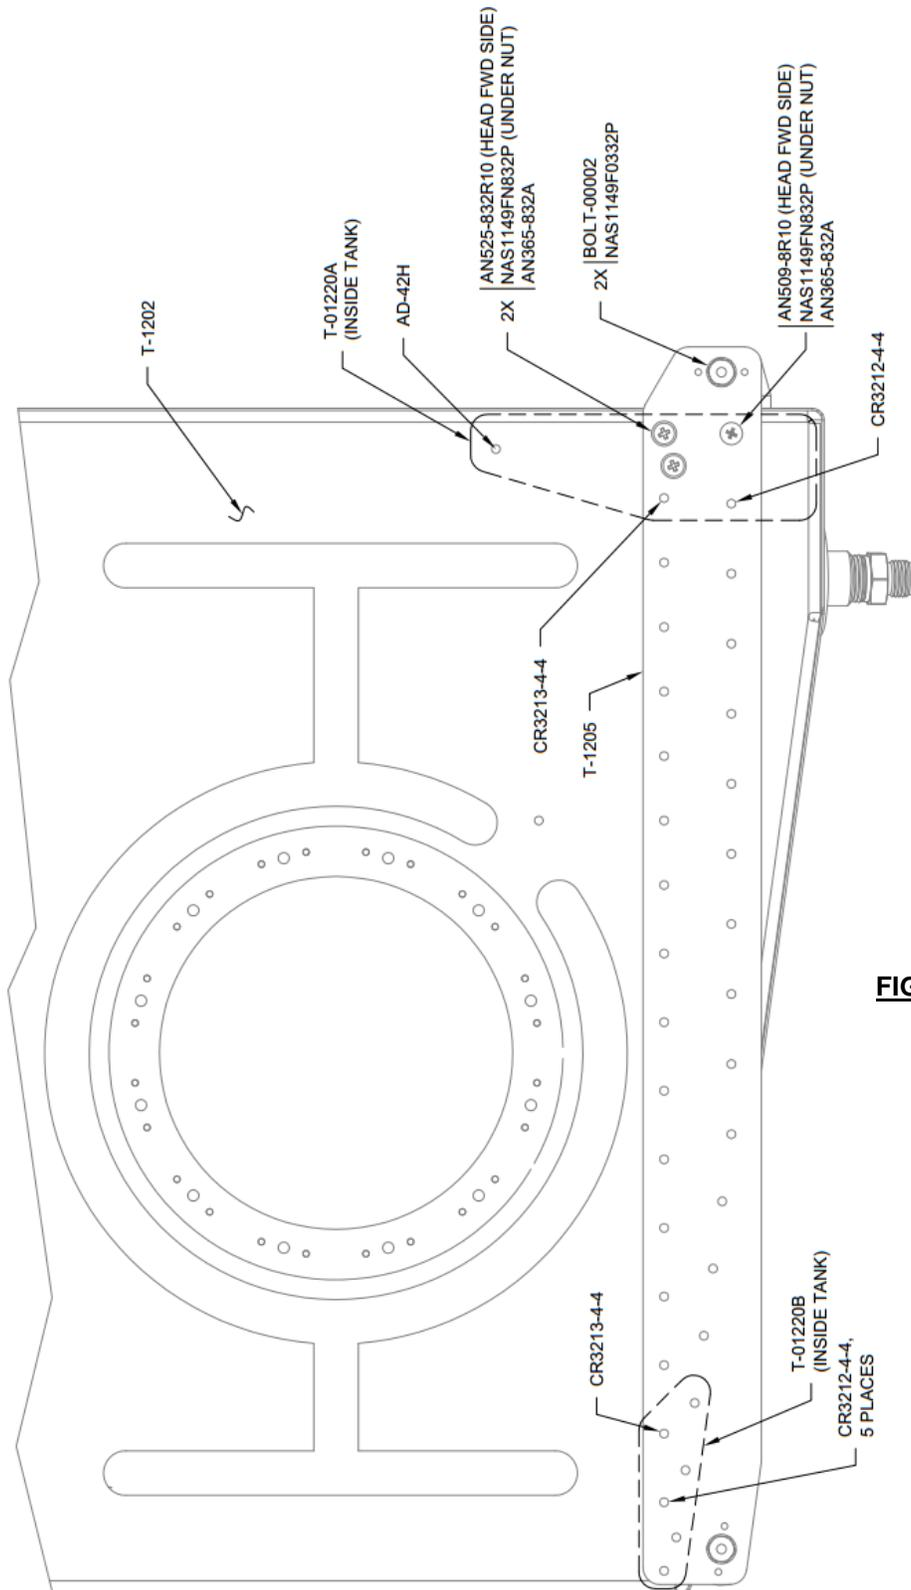

FIGURE 5: INSTALLING THE DOUBLERS
Step 8: Test fit the doublers inside the tank. Radius the edges of the doublers to fit against the bend radii in the T-1202 Fwd Tank Bulkhead. See Figure 5.
Step 13: Add a very thin layer of sealant covering the face of the doublers that will lay against the T-1202 Fwd Tank Bulkhead. Using the hardware callouts shown in Figure 5 rivet the doublers to the tank structure using tank sealant. Refer to Section 5 for installation of Cherry Max rivets.
Step 14: Install the screws common to the inboard doubler as shown in Figure 5.